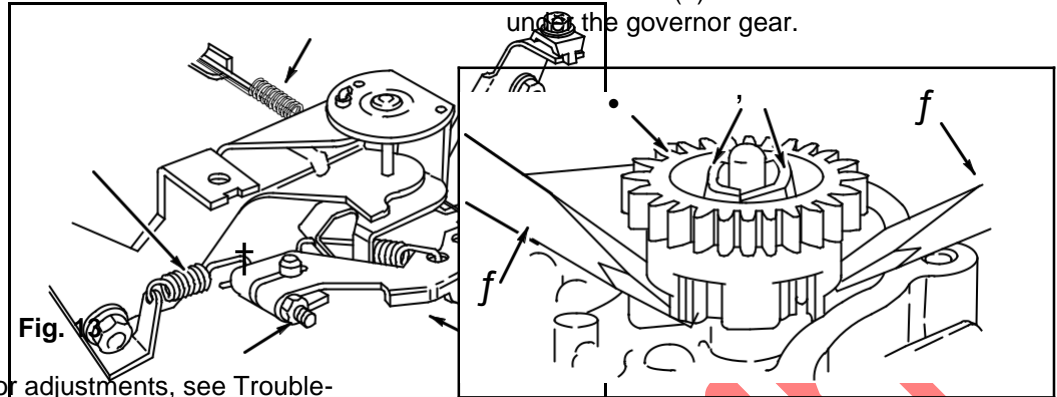

Fig. 15
1. The governor gear should spin freely and slide on the governor gear shaft. The flyweights (2), Fig. 15, must move freely on the hinge pins.